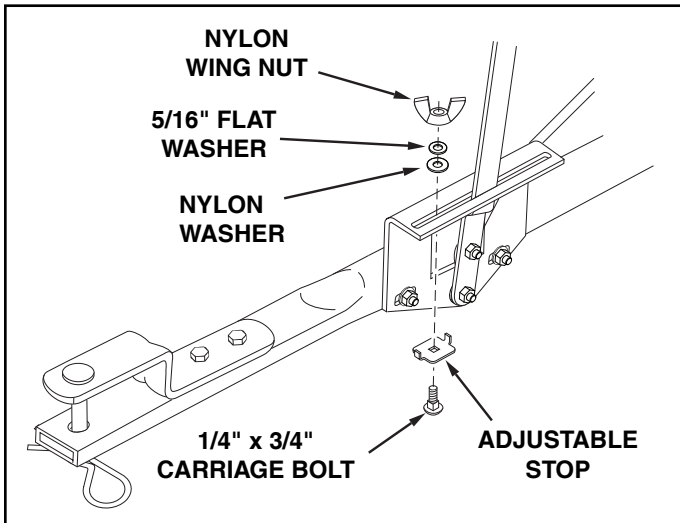

FIGURE 12
20. Place the adjustable stop into the "ON" end of the slot in the top of the flow control mounting bracket. Secure with the 1/4" x 3/4" carriage bolt, a nylon washer, a 5/16" flat washer and the nylon wing nut. See figure 12.